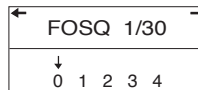

FIGURE 4–9 FOSQ SCREEN 1 OF 30
2. From the Standby screen, press the – button to access the first FOSQ screen, shown in Figure 4–9.